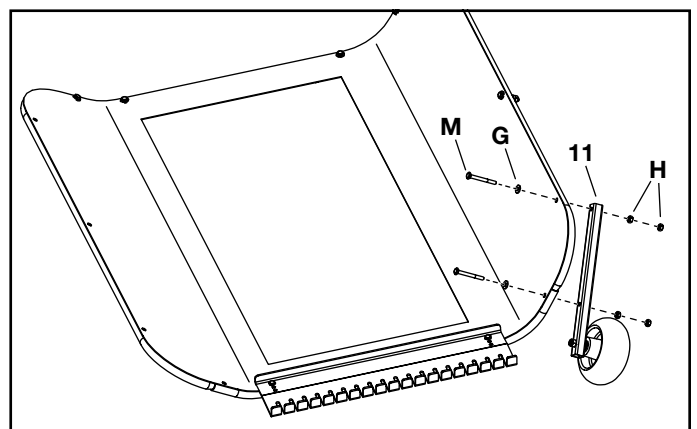

FIGURE 10
STEP 10: (SEE FIGURE 10)
- With the right pusher wall assembly lying flat, attach a wheel support (11) to the assembly using two hex bolts (M), washers (G), and hex nuts (H).
- Tighten the hex nuts (H).
- Add a second hex nut (H) to each hex bolt and tighten.